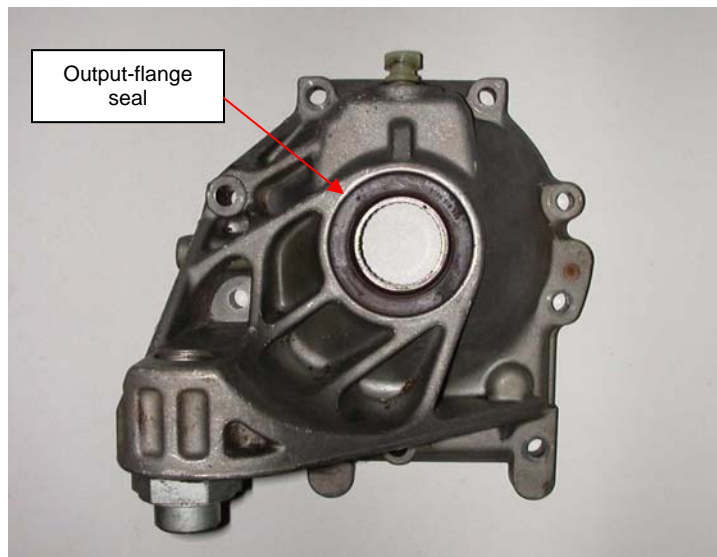

Fig. 14 External view of extension case showing flange seal
- b. Pry the old seal out (see Fig. 14) using a screwdriver or small pry bar. Tap new one in place using an appropriately sized socket.